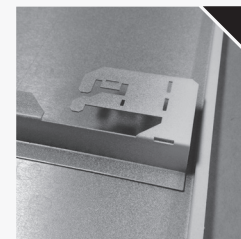

FIG. 1
- Deploy the seismic securing brackets to match the ceiling grid web height as shown in figures 1 and 2.